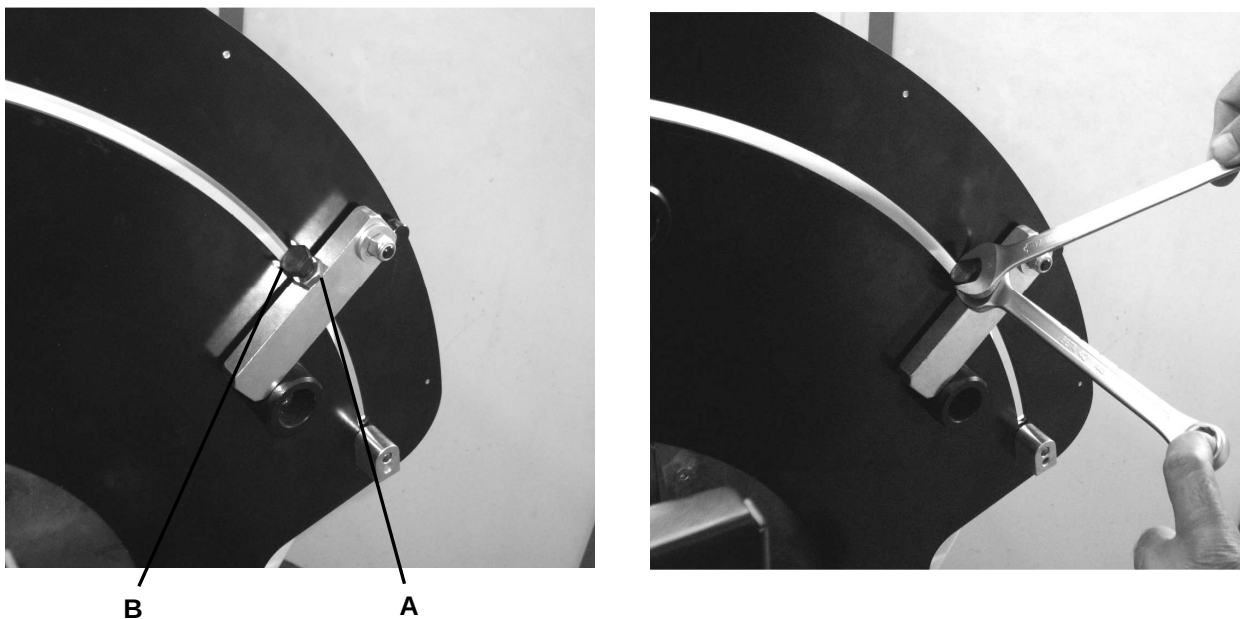

Fig. 09-08
9.7 ADJUSTING THE BLADE ANGLE FOR CUTTING AT 45° (FIG. 09-08)